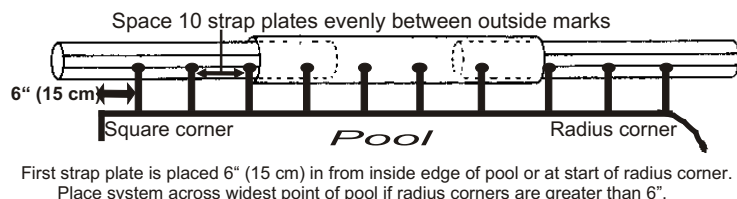

Fig. 9
- Mark strap plate location on tube drill lines. First strap plate is placed 6" (15 cm) in from inside edge of pool or at the start of the radius corner (see Fig. 9).